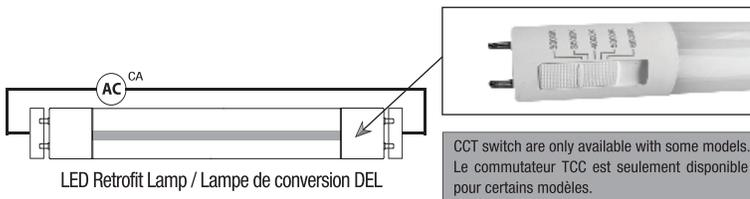

Fig. 1B Double end connection / Connexion double fin
LED T8 lamps are designed for double-ended connections (Fig.1B).
8. Select the desired LED color temperature by using the switch on the LED T8 tube as shown in Fig. 1B.
Les lampes LED T8 sont conçues pour des connexions à double extrémité (Fig. 1B).